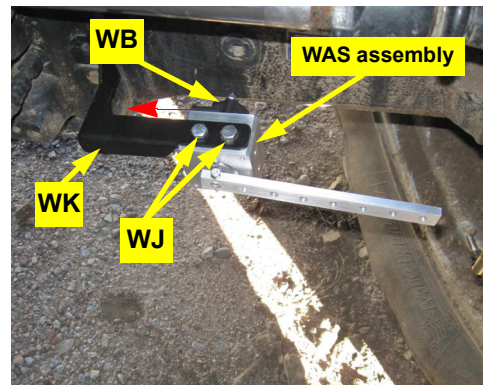

Figure 2d: Installed WAS assembly
- d. Attach the assembled WAS to the bottom side of the bracket **WK** using provided hardware **WJ**. Face the wire connector **WB** to the center of the tractor (Figure 2d).